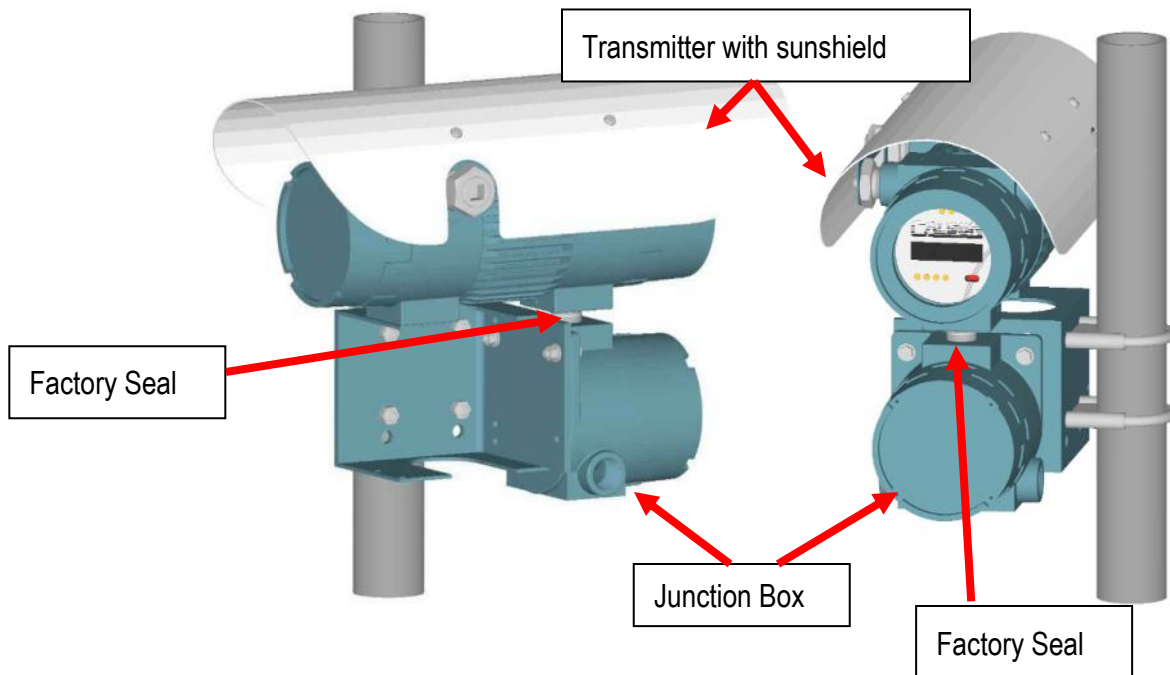

Figure 3.8: Vertical Installation of Transmitter/Junction Box (Sunshield Shown)
4. Connect the mounting bracket to the transmitter and junction box using the four bolts, see Figures 3.8 and 3.9.